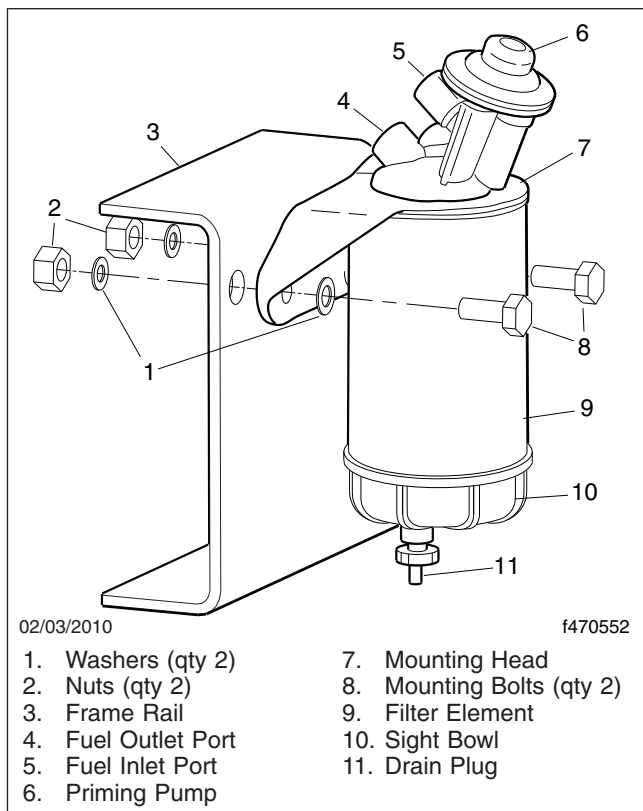

Fig. 11.12, Alliance Fuel/Water Separator Assembly and Installation
4.3 *Alliance/Racor Models:* Turn the drain plug counterclockwise to open it. See Fig. 11.12.